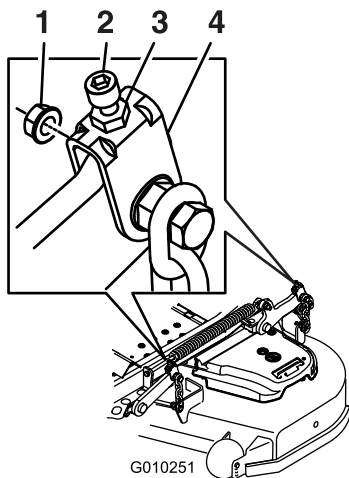

Figure 100
11. For mower decks shown in Figure 100, fine-tune the adjustment nut on the front deck-lift assembly by turning it (Figure 100).
17. Fine-tune the screw adjuster by turning it to get 8.3 mm (3-1/4 inches) height (Figure 100).